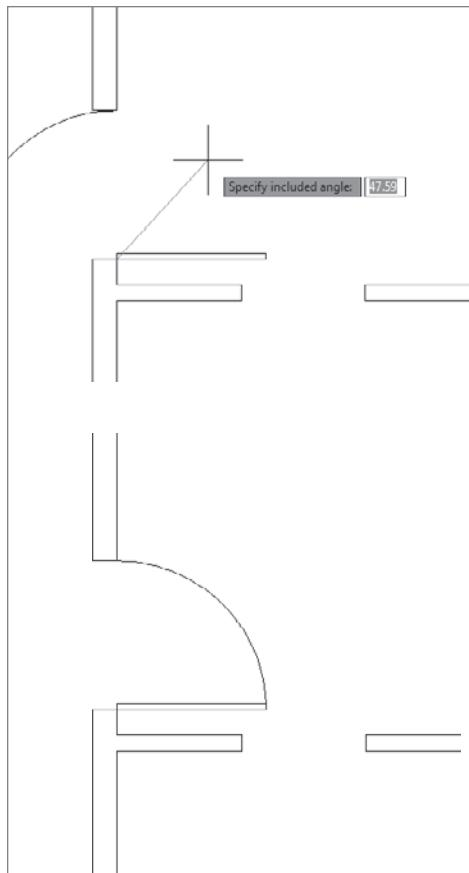

FIGURE 4.51 Drawing the arc: the ending point of the arc follows the cursor's movements (top), and the completed arc (bottom).
The arc is now visible, and its endpoint follows the cursor's movement, but the arc is extending in the wrong direction (see the top image in Figure 4.51). The prompt displays the Specify Included Angle option.
- Enter **-90 ↴**. The arc is completed, and the ARC command ends (see the bottom image in Figure 4.51).